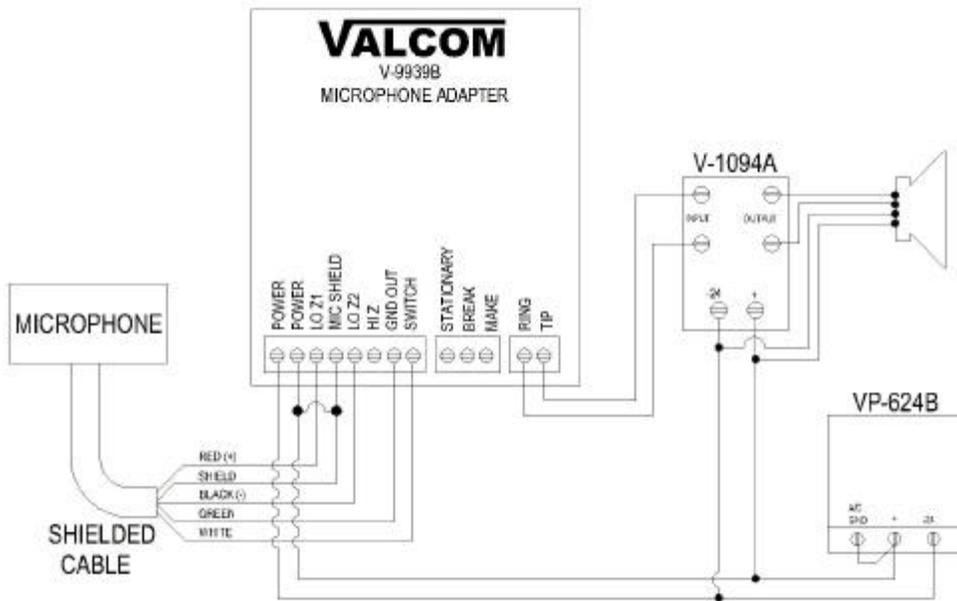

FIGURE 3 – STAND ALONE PAGE SYSTEM
- \_\_\_1. Stand alone page system: Proceed to Figure 3.
## WIRING INSTRUCTIONS (For Figure 3)